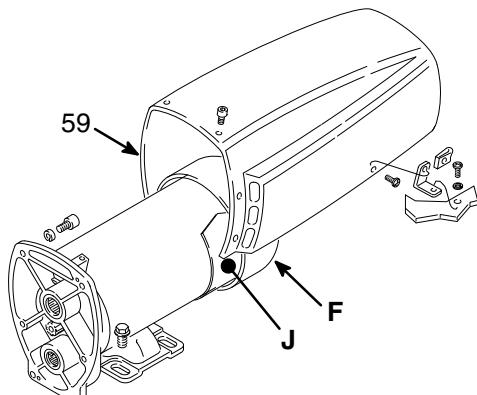

Fig 25-1
2. Remove the motor shield (59). Remove the inspection covers (J) and gaskets (K) on each side of the motor. See Fig 25-1.